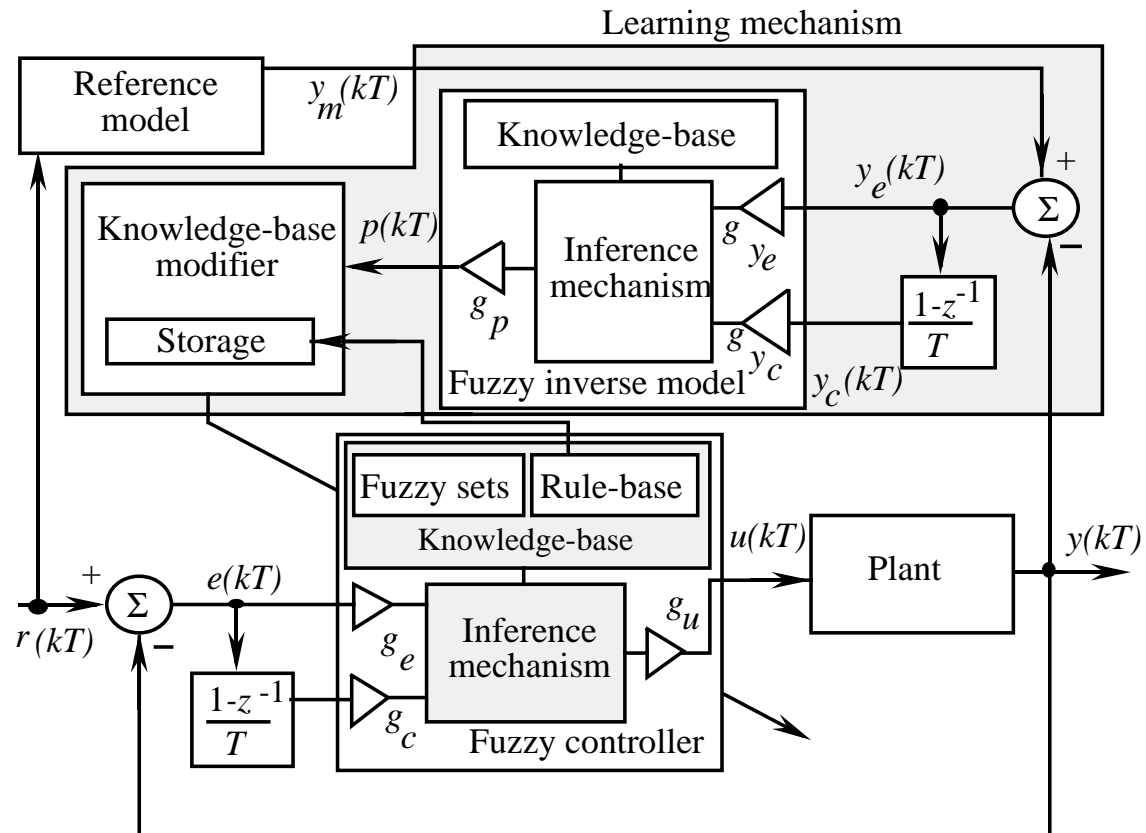

Figure 10: Fuzzy model reference learning controller.
- Fuzzy model reference learning control (FMRLC) is one approach and it is shown in Figure 10